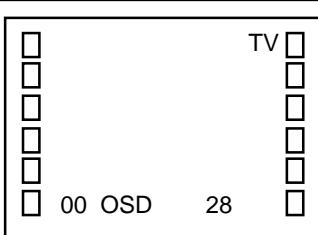

Fig. 1-1
1. In the condition of NO indication on the screen. Press the VOL. DOWN button on the set and the Channel button (9) on the remote control for more than 1 second to appear the adjustment mode on the screen as shown in Fig. 1-1.
2. Activate the adjustment mode display of Fig. 1-1 and press the channel button (01) on the remote control to select "CUT OFF".
4. Activate the adjustment mode display of Fig. 1-1 and press the channel button (12) on the remote control to select "R. BIAS".
3. Activate the adjustment mode display of Fig. 1-1 and press the channel button (03) on the remote control to select "H. PHAS".
3. Activate the adjustment mode display of **Fig. 1-1** and press the channel button **(06)** on the remote control to select "H. SIZE".